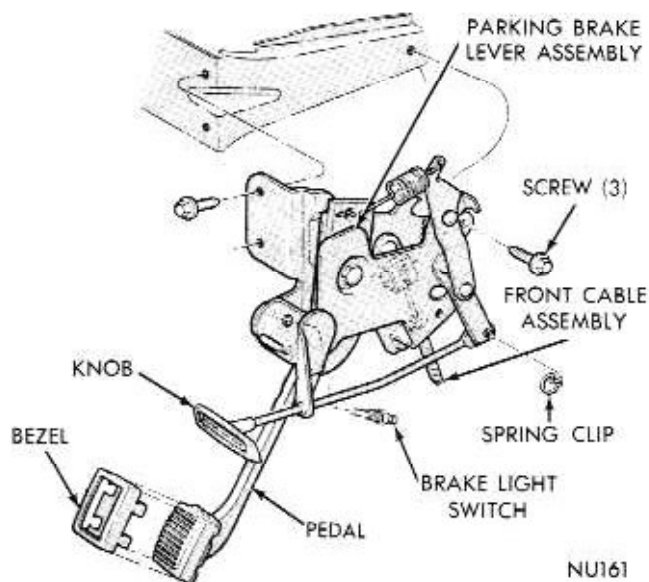

Fig. 3—Parking Brake Pedal (Plymouth)
Should it become necessary to remove the parking brake cable (rear) for installation of a new cable, see (Fig. 3) Wheel Cylinders.
- (1) With vehicle jacked up or on a suitable hoist, remove rear wheels.
- (2) Disconnect brake cable from equalizer.
- (3) Remove retaining clip from brake cable bracket.
- (4) Remove brake drum from rear axle.
- (5) Remove brake shoe return springs.
- (6) Remove brake shoe retaining springs.
- (7) Remove brake shoe strut and spring from brake support and disconnect brake cable from operating arm.
- (8) Compress retainers on end of brake cable housing and remove cable from support. (Fig. 3) Wheel Cylinders.
- (2) Disengage cable from guide clip.
- (3) Using a screwdriver force cable housing and attaching clip out of body crossmember.
- (4) Fold back left front edge of floor mat and remove rubber cable cover from floor pan.
- (5) Engage parking brake and work brake cable up and out of brake pedal linkage, (Figs. 3, 4 or 5).
- (6) Using a screwdriver force upper end of cable housing and clip down out of pedal assembly bracket.
- (7) Remove cable to floor pan clip and work cable and housing assembly up through floor pan.